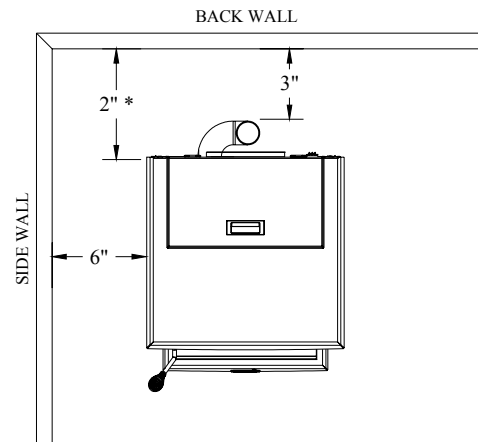

Figure 1
The BIO-35 has been tested and listed for installation in regular and mobile homes.(refer figure 1 & 2)
1. Position stove, adhering to clearances shown in Figures 1 & 2.